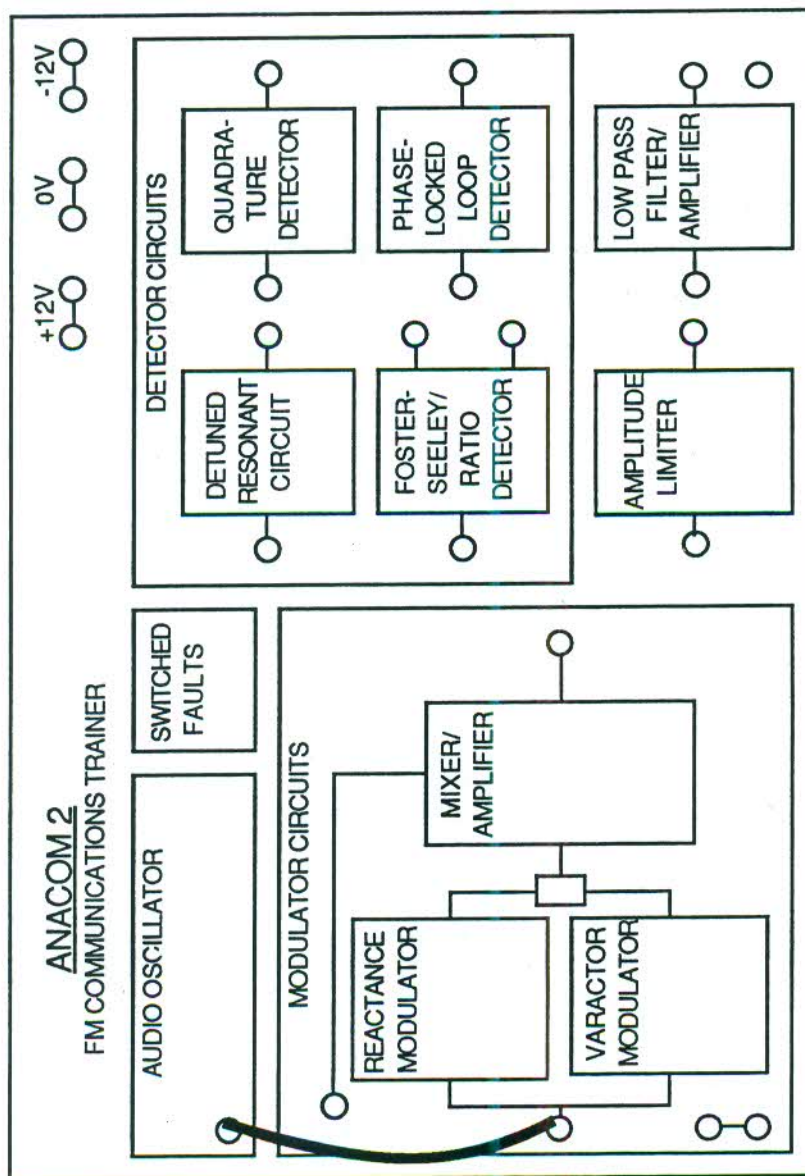

Figure 5
5. Link the OUTPUT socket of the AUDIO OSCILLATOR block to the AUDIO INPUT socket of the MODULATOR CIRCUITS block, as shown in Figure 5 at the end of this chapter.